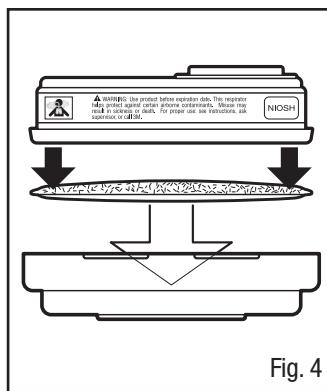

Fig. 4
2. Press cartridge into filter retainer. It should snap securely into filter retainer. When correctly installed, filter should completely cover face of cartridge (Fig. 4).